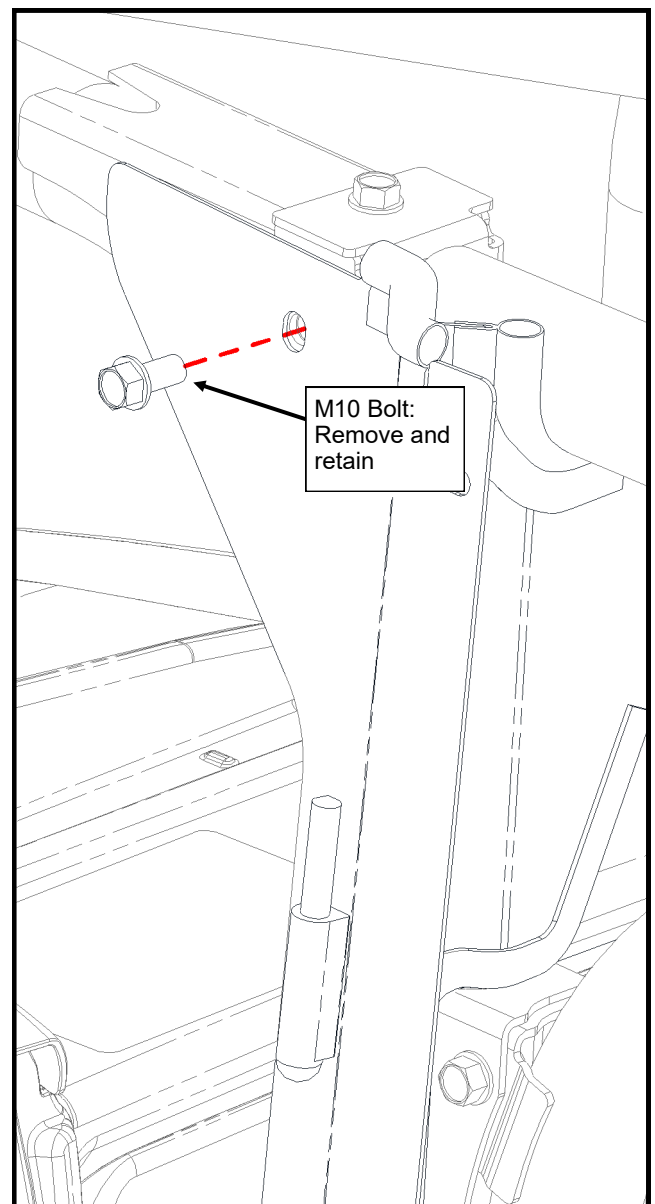

Figure 6.2: B-Pillar upper M10 bolt
- 6.2 For each side, remove and retain the M10 bolt from the side of the ROPS, just forward of the center pillar (see Figure 6.2). These bolts will be used later to secure the front side headers.